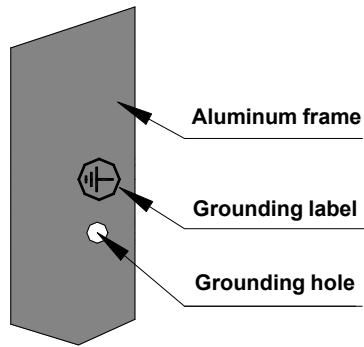
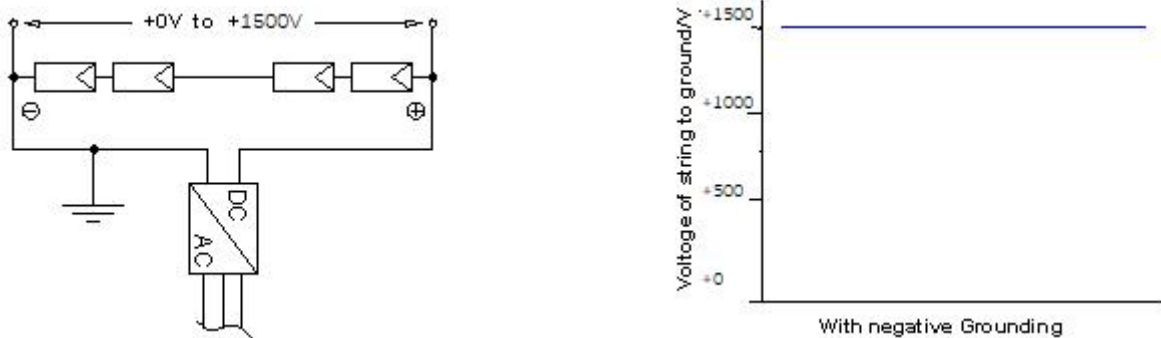

FIG 3 Grounding hole and ground label
FIG 5 Schematic diagram for grounding potential of the inverter
7.5.1 Apex Solar modules use anti-corrosion and oxidation resistance aluminum frame as rigid supporting. In order to protect the module from lightning strike, electrostatic damage, and personnel safety, all module frames and mounting racks must be properly grounded, as shown in Figure 3: grounding hole and grounding label. Use the recommended connector terminal, or an equivalent, to connect the cable to the frame, and assure good electrical contact as shown in Figure 5: Grounding method.
7.5.6 If the module is used in high-temperature and high-humidity environment, Apex solar suggest the customer configure the inverter which allows negative grounding and contains isolation transformer (as shown in FIG5).